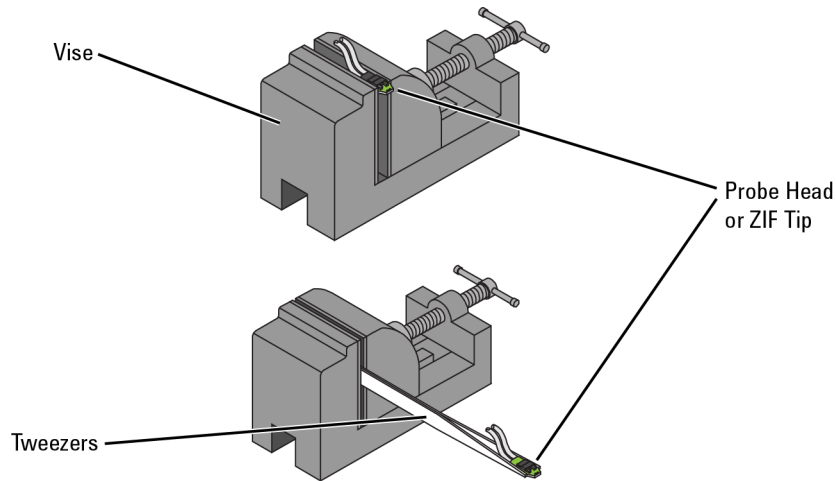

Figure 62 Clamping the Part
- 1 As shown in **Figure 62**, clamp the probe head or ZIF tip in a vise. Tweezers can be used to hold the probe head or ZIF tip away from the vise. When using tweezers, grip the tip either on the sides or top and bottom.